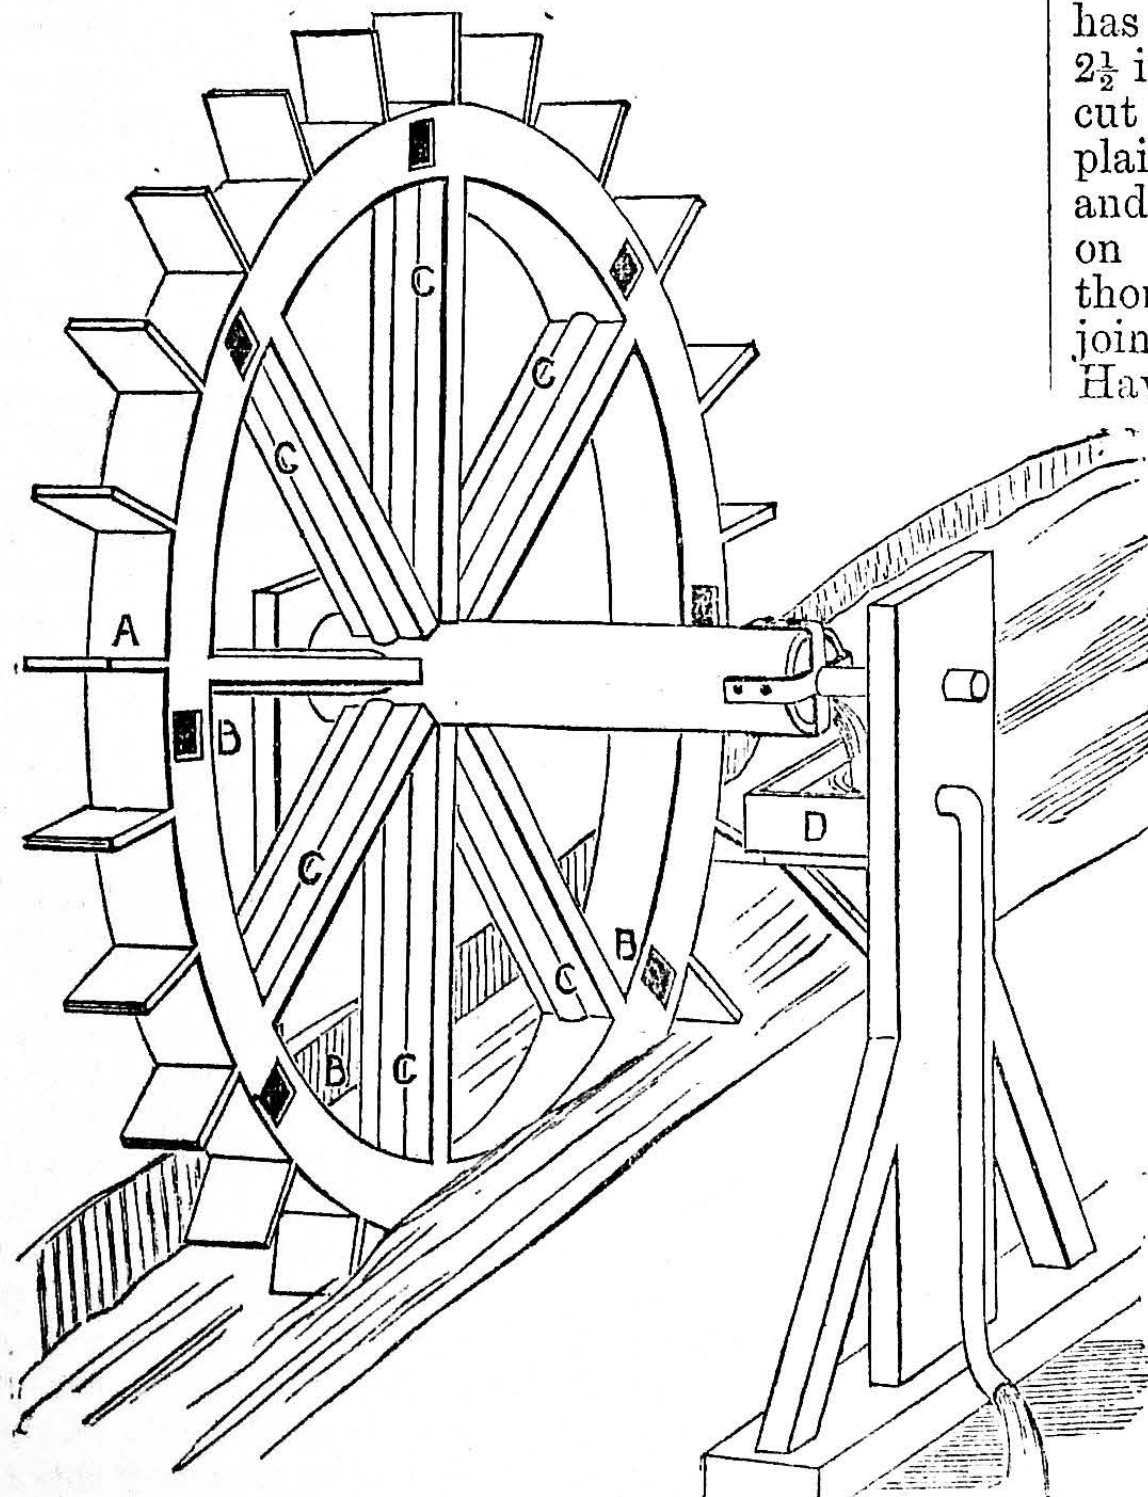

Fig. 2.—Water-wheel for raising Water to Height of Centre.
Fig. 2 is from the same work, and represents a machine for raising the water of a river to the height of the half diameter of the wheel. The circumference (A) of the wheel is hollow, and is divided by partitions, so as to form so many boxes, which are